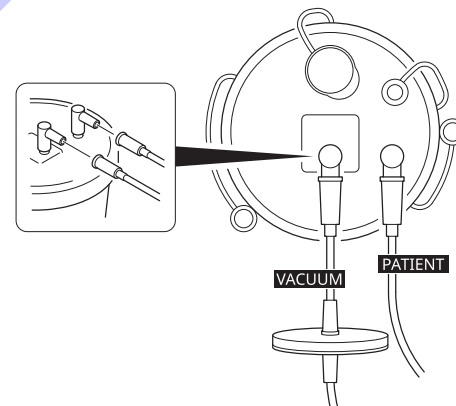

Figure 88 – Suction Canister Tubing Connections
- Connect the suction tube connector marked VACUUM to the suction canister port marked VACUUM (Figure 88).